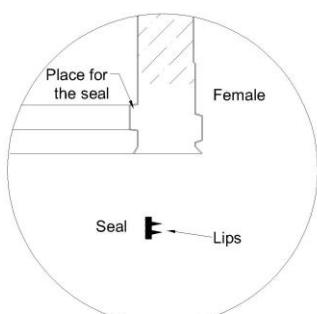
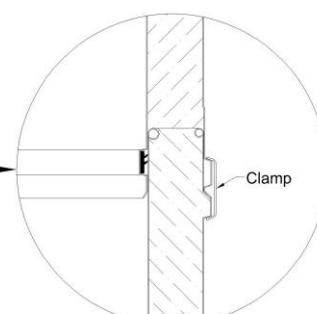

Figure 2
Figure 4
*Before assembly each component the seal must be placed on the corresponding site with the two lips outside. These two lips must be **lubricated with soap** around the entire perimeter. See figures 2 and 3. Each component is connected with the previous one as shown in figure 4. The joint between both elements must be fixed with the locking band.*